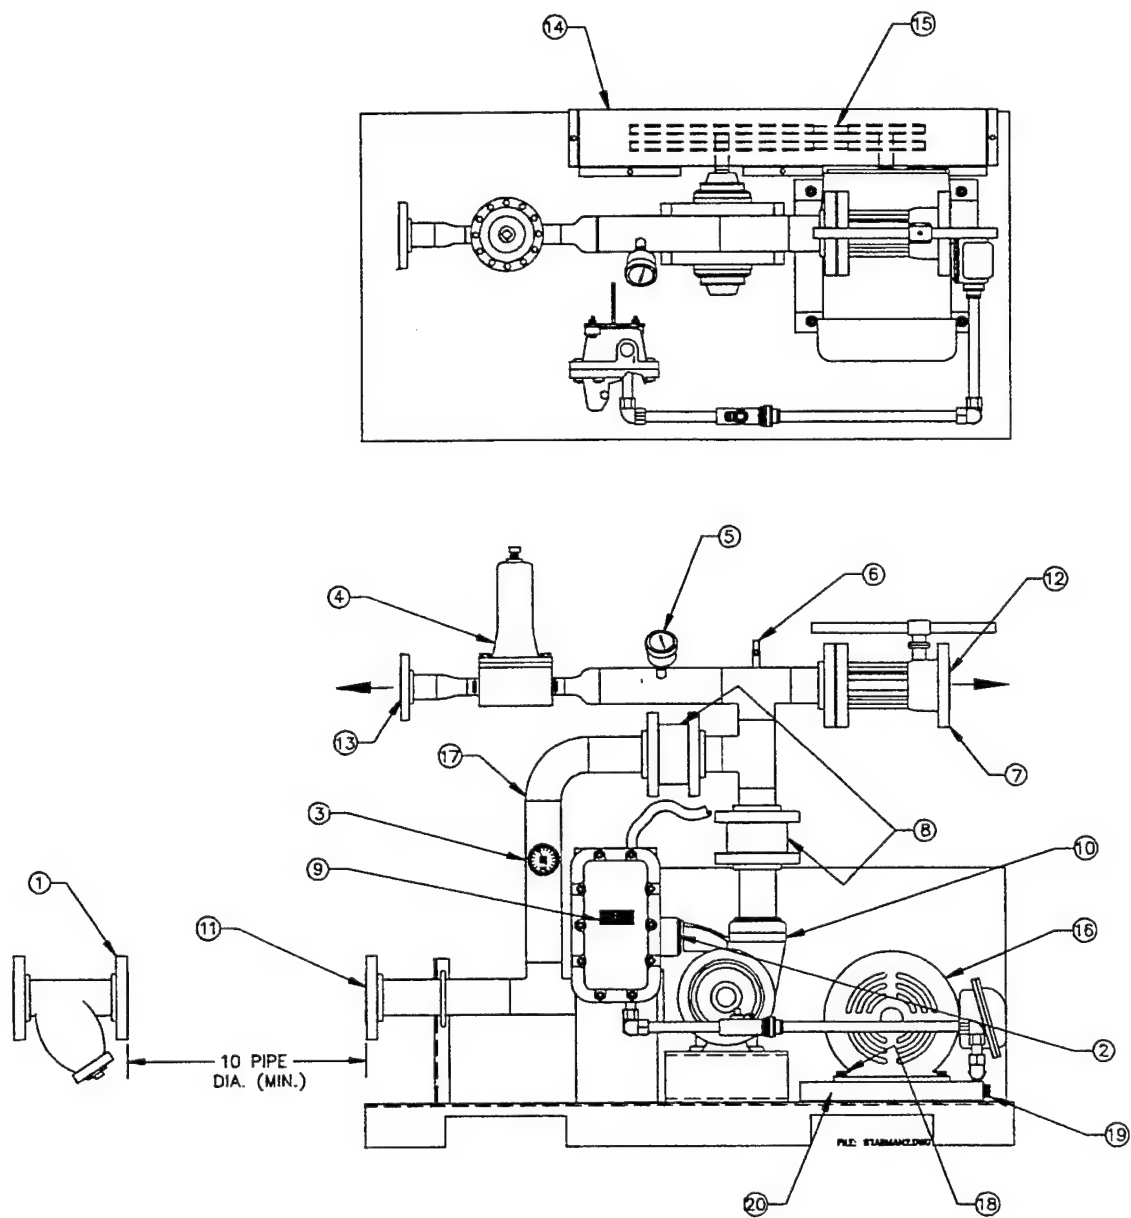

FIGURE 2
The systems come assembled as a unit. See Figure 2.
G. V-BELT DRIVE PUMPS (Refer to Figure 2)